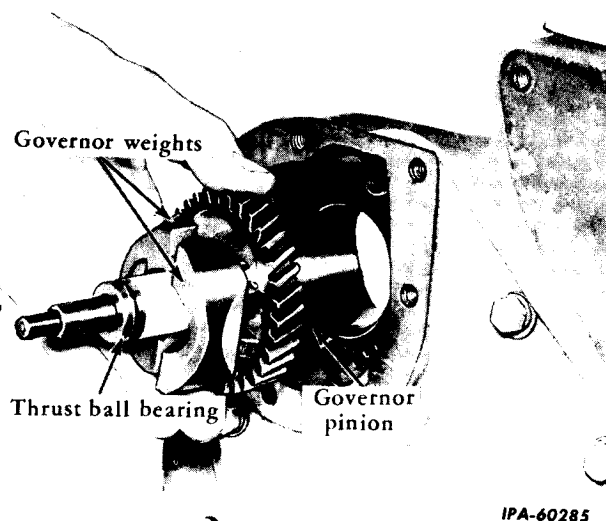

Fig. 4 - Removing the Governor Weight and Pinion Assembly.
3. Remove the governor weight and pinion assembly (Fig. 4).